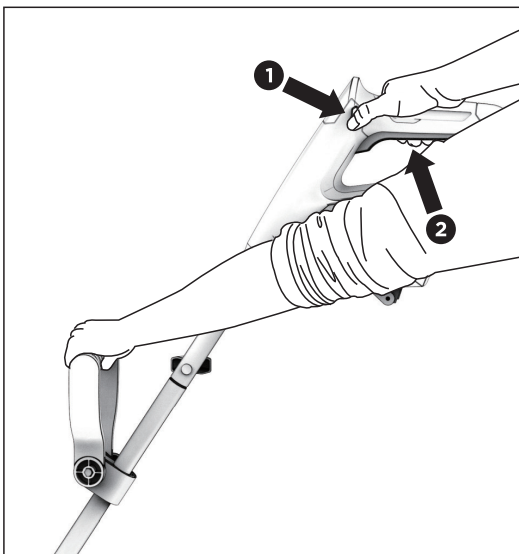

Fig. 10
**WARNING!** To prevent injury, do not squeeze the trigger while the snow shovel is inverted. When starting, make sure both the operator and the snow shovel are stable. Hold the snow shovel firmly with two hands. Make sure the auger is not touching any surface. Depress and hold the safety lock button on the handle grip. Then, squeeze the On/Off switch and hold it. Once the machine is switched on, you can release the safety lock. (Fig. 10)